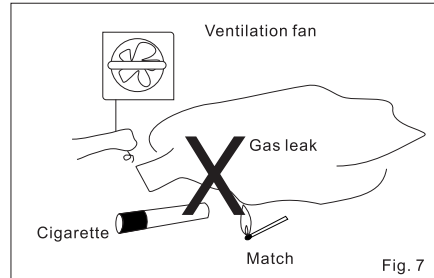

Fig. 7
- If a gas leak is found, close the main gas valve, open up all windows, and call your dealer. Do refrain from turning an electric switch on or off, lighting a match, or using a lighter.(Fig. 7)